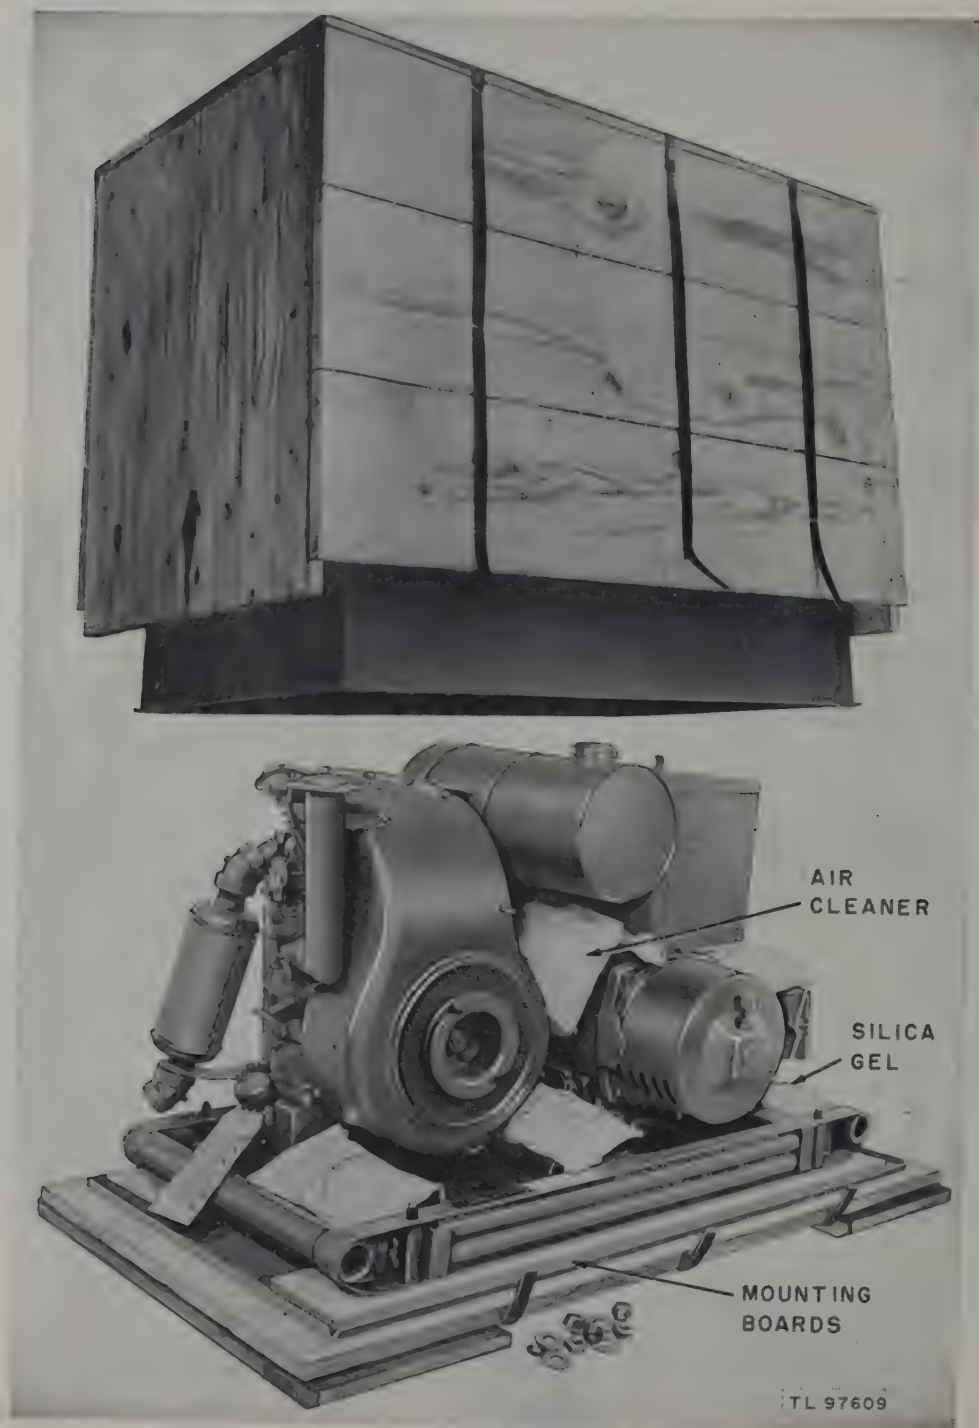

Figure 10. Power Unit PE-75-(*), packaging with rigid barrier.
f. POWER UNIT PE-75-(*). Two methods of packaging Power Unit PE-75-(*) for over-sea shipment are used. Both are designed to give complete protection from moisture, vapor, and corrosion damage. The methods differ in the types of moistureproof and vaporproof barriers used; the flexible type and the sheet metal or rigid type. Figure 10 shows packaging with the sheet metal or rigid type of barrier.
- (1) Radio Set AN/TRC-1(*) weighs 1,435 pounds net and 2,000 pounds packed for export.
- (2) Radio Terminal Set AN/TRC-3(*) weighs 2,560 pounds net and 3,150 pounds packed for export.
- (3) Radio Relay Set AN/TRC-4(*) weighs 3,500 pounds net and 4,500 pounds packed for export.
- (4) Amplifier Equipment AN/TRA-1(*) weighs 403 pounds net and 547 pounds packed for export.
a. Power Unit PE-75-(*) (figs. 10, 15, and 84) is a self-contained, compact, portable, gasoline engine-driven generating set of the manual starting type. It is designed to deliver 2,500 watts of 60-cycle a-c power at 120 volts. These power units use Briggs and Stratton model ZZ or ZZL, single cylinder, air-cooled, 4-cycle gasoline engines for driving the generator. The engine is rated at 6 horsepower at 2,380 rpm.